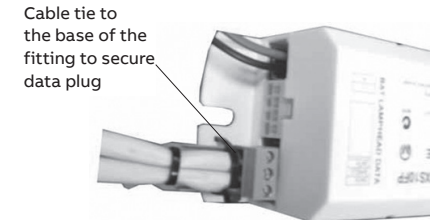

Figure 2: Data connection
- Connect the data cable as shown in figure 2 using a suitably sized screwdriver.